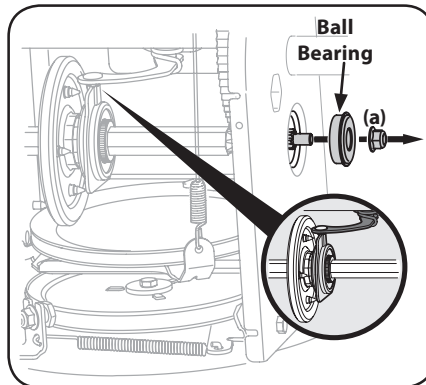

Figure 4-21
- Carefully remove hex nut (a) which secures hex shaft to equipment frame and lightly tap the shaft's end to dislodge ball bearing from right side of frame. See Figure 4-21.
**NOTE:** Make sure shift lever pin is in place in bearing housing. See Figure 4-21 inset.